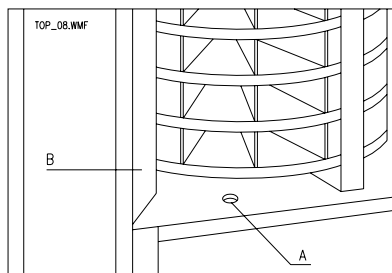

FIG. 8
- 2) Remove the left hand grille assembly Ref. B FIG. 8.
- 6) For the bottom drum use the hole in the cabinet floor Ref. A FIG. 8 to align the connecting rods and fit the dividers as in above.